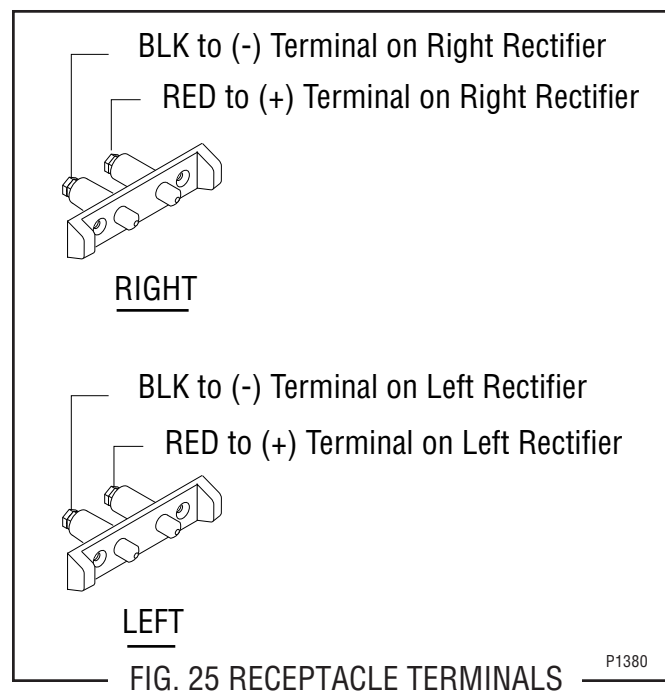

FIG. 25 RECEPTACLE TERMINALS
6. Refer to Fig. 25 and reconnect the wires.